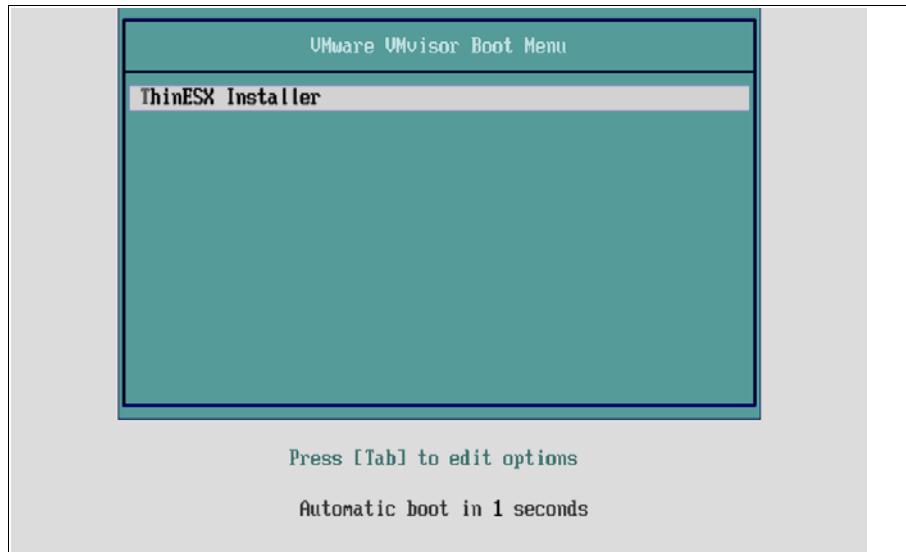

Figure 5-26 VMware VMvisor ESXi Installable Boot Menu
3. When prompted during the boot process, press F12 to boot from the CD. You see the boot menu, as shown in Figure 5-26 on page 280.